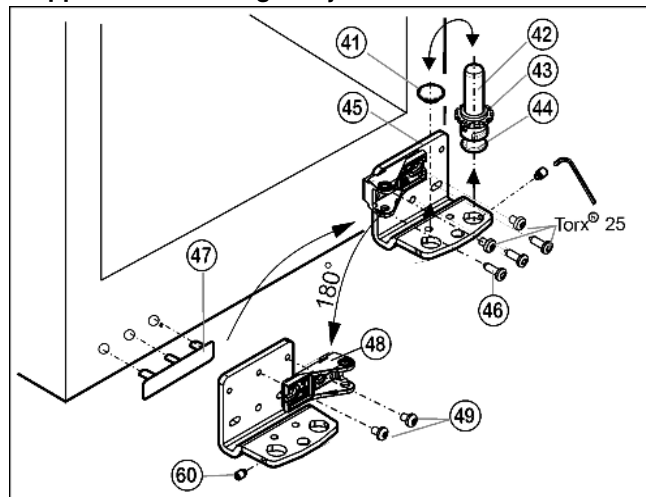

Fig. 13
- Using the accompanying Allen key, unscrew the threaded pin Fig. 13 (60) by about 1 turn.
- Turn and lift out the bearing pin Fig. 13 (42) together with the washer Fig. 13 (43) and adjustable-height foot Fig. 13 (44).
- Lift out the stopper Fig. 13 (41).
- Unscrew Fig. 13 (46) the turn hinge Fig. 13 (45).
- Fully unscrew the threaded pin Fig. 13 (60) and screw it in on the opposite side, at the turn hinge, until it is flush outside with the turn hinge.
- Unscrew the bearing element Fig. 13 (48), turn it through 180° and screw Fig. 13 (49) it firmly back into place.
- Re-insert the stopper Fig. 13 (41) into the other hole.
- Carefully lift off the cover on the handle side Fig. 13 (47) and transfer it to the opposite side.
- Screw the turn hinge Fig. 13 (45) firmly into place on the new hinge side, possibly using a cordless screwdriver (**with 4 Nm**).
- Screw the bearing pin Fig. 13 (42) into place again, complete with washer and adjustable-height foot.
- Tighten the threaded pin Fig. 13 (60).
- ▶ Place the door from above onto the lower bearing pin Fig. 13 (42).
- ▶ If necessary, align the doors to the appliance housing by way of the two oblong holes in the bottom turn hinge Fig. 13 (45) and middle turn hinge Fig. 11 (31). To do so, unscrew the middle screw in the bottom turn hinge Fig. 13 (45).